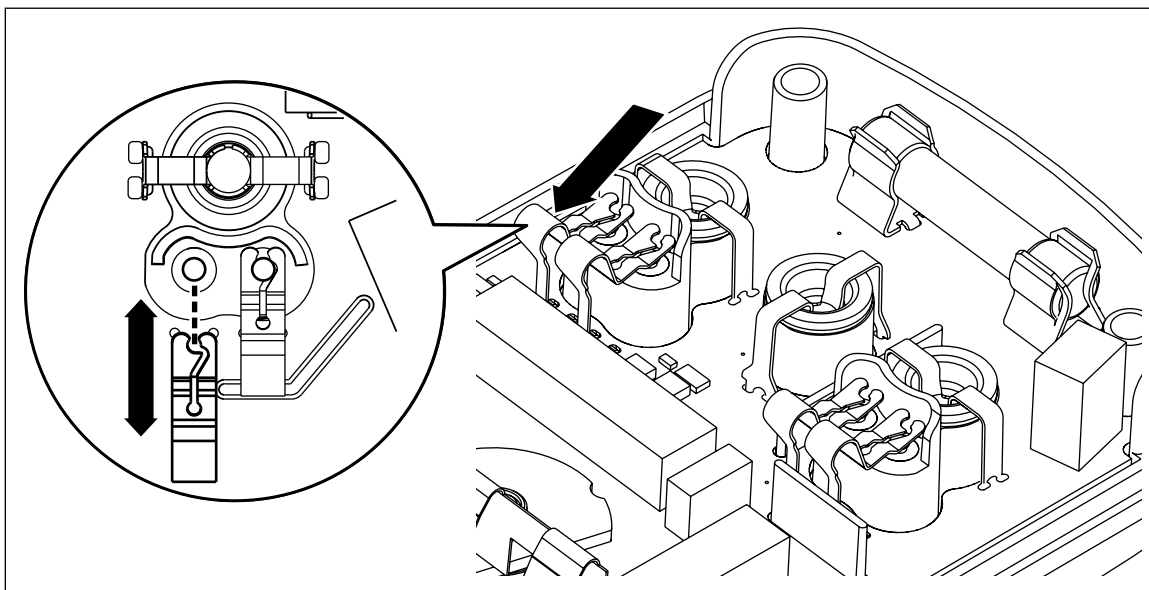

Figure 4. Insulation Terminal Clips
2. Two chrome plated springs on the PCA form an electrical connection (clip) to the two recessed INSULATION(+) terminals on the top case. Break these connections by carefully pulling each of the springs back and away from the terminals. See Figure 4.